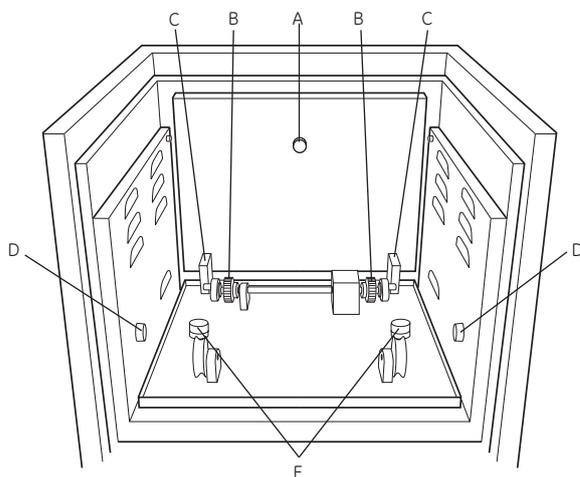

Fig 2. Hybridization oven drive components
4. Place the rotisserie into the oven onto the rotation mechanism, ensuring that the serrated bands at either end of the rotisserie locate onto the steel cogs of the rotation mechanism at the rear of the oven. (B on figure 2). The plastic flanges of the rotisserie locate on to the small wheels on the oven floor. Close the oven door.
2. Lift the platform by its handle (A, see figure 2) from its storage position, slide it forward and locate it on the rocking mechanism by placing the side pegs of the platform into the retainers (D) on the side walls of the oven chamber. This action seats the nylon blocks (C) on the underside of the platform on to the pegs (E) protruding from the rocker mechanism at the rear of the oven.
5. Turn the Rotisserie/Shaker ON by pressing the on / off button (1). The red indicator light (3) above the speed selector dial (2) will illuminate.
6. Rotate the Rotisserie/Shaker speed selector dial (2) clockwise, until the desired shaker speed is reached. Allowable values are 5–70 strokes per minute.